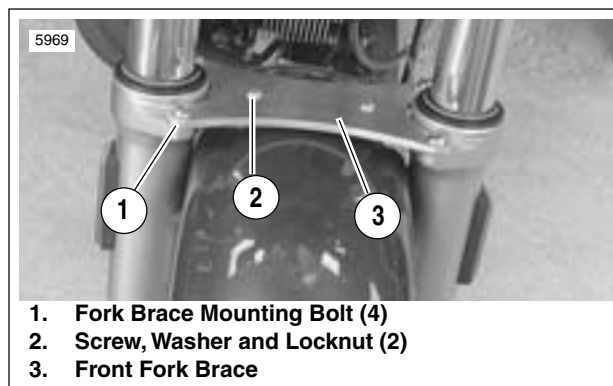

Figure 2-102. Front Fender
1. See Figure 2-102. Remove four bolts (1) (metric) from fork brace (3).
2. Lift fender and brace upward between forks. Remove screws, washers and locknuts (2).